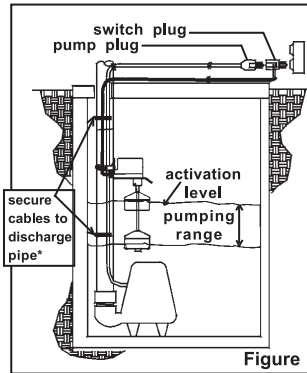

Figure 1
5. Secure pump cable and switch cable to discharge pipe as shown in Figure 1*.